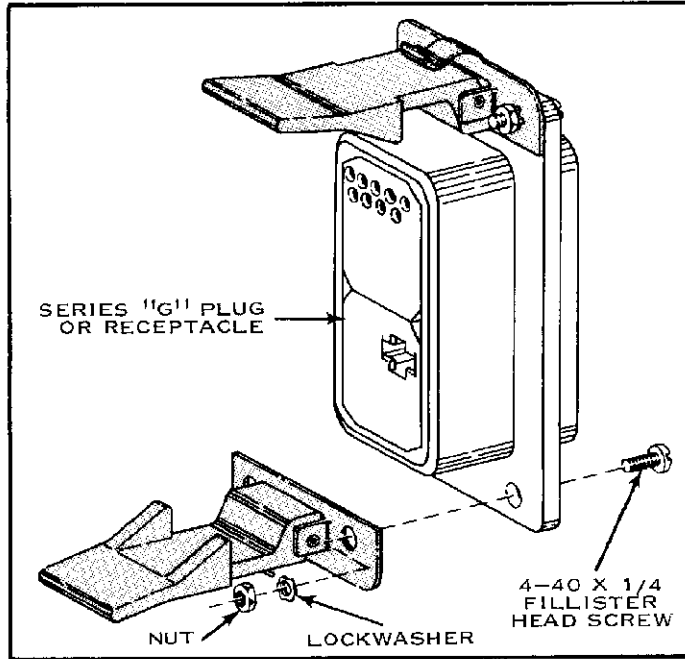

FIG. 1
1. The Locking Latches (see Figure 1) covered by these instructions are used to lock Series "G" Plugs and Receptacles together. The Latches are attached to a Plug or Receptacle which contains no other Accessories and which mates with a Plug or Receptacle to which has been attached a Shield and Cable Clamp.
Mount Locking Latches to Plug or Receptacle as shown in Figure 1. Use No. 4-40 x 1/4" Fillister Head Screws with Lockwashers and Nuts.